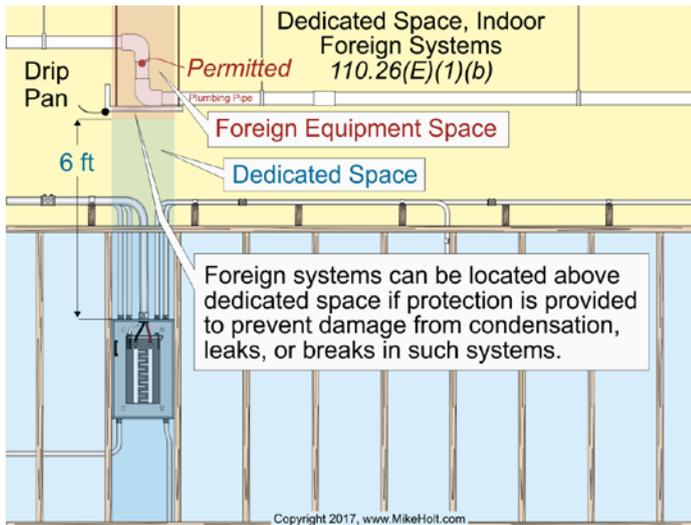

Figure 110-47
**(b) Foreign Systems.** Foreign systems can be located above the dedicated space if protection is installed to prevent damage to the electrical equipment from condensation, leaks, or breaks in the foreign systems, such protection can be as simple as a drip-pan. *Figure 110-47*